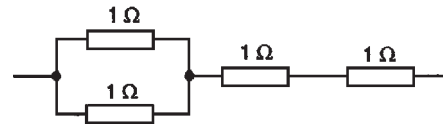

Figure 7.19
- (d) **Two in parallel, in series with two in series** (see Fig. 7.19), since for the two in parallel